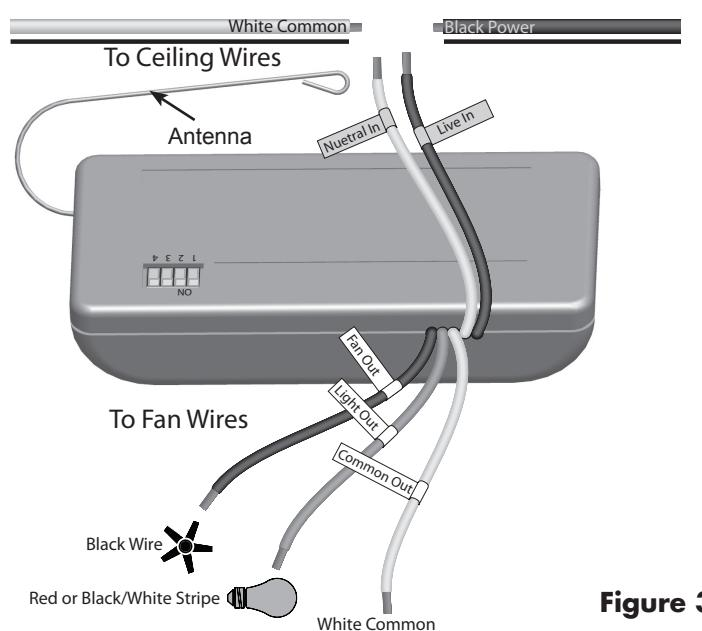
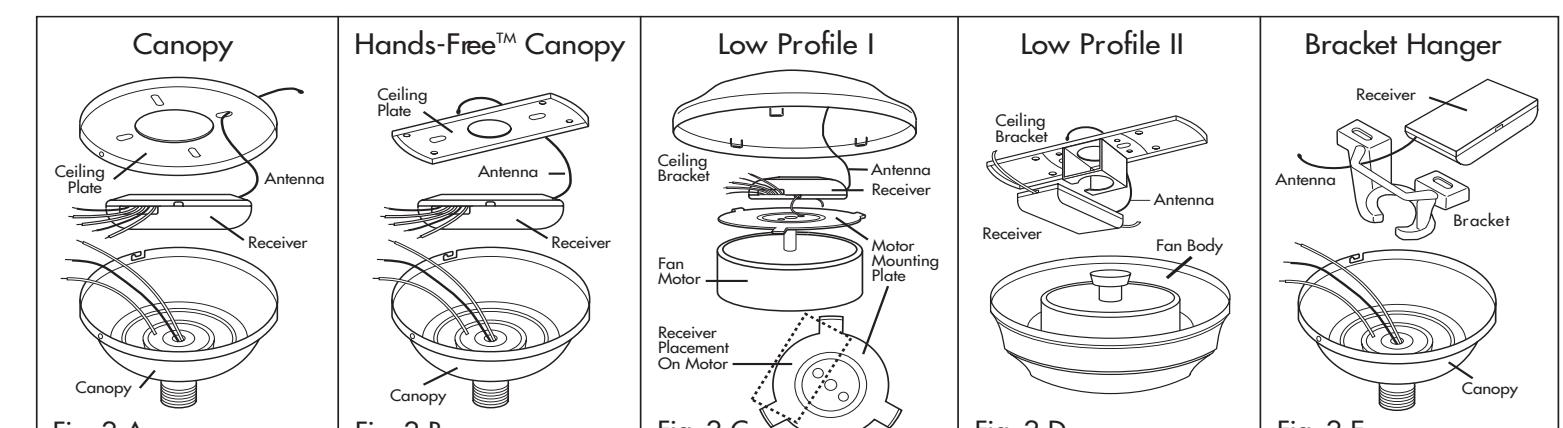

Figure 3.
Figure 2
**Canopy Hanger (Fig. 2-A):** Place receiver in canopy. Connect wiring as shown in Figure 3. Extend antenna through one of the ceiling plate openings (approximately 3-6").
**Hunter Hands-Free™ Canopy (Fig. 2-B):** Connect wiring as shown in Figure 3. Place receiver inside mounting bracket. (On some Whisper Wind™ models, the receiver must rest across the bottom of the mounting bracket.) Extend antenna above the ceiling mounting bracket (approximately 3-6").
**Low Profile Style I (Fig. 2-C):** Attach the receiver to the motor mounting plate with 12" cable ties (not included). Cut off any extra cable tie. Connect wiring as shown in Figure 3. Extend antenna above the ceiling plate openings (approximately 3-6").
**Low Profile Style II (Fig. 2-D):** Attach the receiver to the ceiling bracket with 12" cable ties (not included). Trim off the excess cable tie length. Connect wiring as shown in Figure 3. Extend antenna above the ceiling mounting bracket (approximately 3-6").
**Bracket Hanger (Fig. 2-E):** Starting with the antenna wire, slide receiver inside mounting bracket. If a ground wire mounting screw prevents the receiver from sliding into the bracket, move ground wire and screw to
an unused hole at the top of the bracket or secure with a canopy mounting screw. The bracket must remain properly grounded. Connect wiring as shown in Figure 3. Extend antenna above the receiver (approximately 3 - 6").
**Cable Tie Routing for Low Profile Fans (Figs. 2-C, 2-D):** Insert cable tie through openings as shown. DO NOT insert the cable tie through the inside of the receiver. The cable tie can be placed across the length or width of the receiver to best match your fan installation type.
3. Determine your ceiling fan mounting type (Figure 2). Most installations will be one of these five types: Canopy Hanger, Hunter Hands-Free™ Canopy, Low Profile Styles I or II, or Bracket Hanger.
4. Install the ceiling fan according to its instructions, up to the point of making the electrical connections. Connect receiver to ceiling fan according to the mounting type as instructed in Figure 2.
5. If the fan is already installed, reverse the installation procedure to the point of disconnecting the fan wiring. Connect receiver to ceiling fan according to the mounting type as instructed in Figure 2.
6. Use the 2 large wire nuts supplied to connect the receiver and house wiring, then use the 3 small wire connectors supplied to connect the receiver and ceiling fan wiring. Refer to the Wiring Diagram in Figure 3.
7. Be sure the antenna is positioned securely, so it does not interfere with the ceiling fan motor. Refer to Figure 2. Do not modify or damage the antenna wire, as control performance may be reduced. After securing the receiver, antenna, and wiring, finish hanging the ceiling fan according to its instructions.
**Suspensión De Campana (Fig. 2-A):** Coloque el receptor en la campana. Conecte los alambres como se muestra en la Figura 3. Extienda la antena a través de una de las aberturas de la placa de techo (aproximadamente entre 3" y 6").
**Campana Hunter Hands-Free™ (Fig. 2-B):** Conecte los alambres como se muestra en la Figura 3. Coloque el receptor dentro de un soporte de montaje. Extienda la antena por encima del soporte de montaje de techo (aproximadamente entre 3" y 6").
**Perfil Bajo Estilo I (Fig. 2-C):** Conecte el receptor a la placa de montaje del motor con bridas de 12" (no incluidos). Corte toda brida excedente. Conecte los alambres como se muestra en la Figura 3. Extienda la antena a través de una de las aberturas de la placa de techo (aproximadamente entre 3" y 6").
**Perfil Bajo Estilo II (Fig. 2-D):** Conecte el receptor al soporte de techo con bridas de 12" (no incluidos). Recorte el exceso de longitud de bridas. Conecte los alambres como se muestra en la Figura 3. Extienda la antena por encima del soporte de montaje de techo (aproximadamente entre 3" y 6").
**Suspensión De Soporte (Fig. 2-E):** Comenzando con el alambre de la antena, deslice el receptor dentro del soporte de montaje. Si el tornillo de montaje de un alambre de tierra evita que el receptor se deslice en el soporte, mueva el alambre de tierra y atorníllelo en un agujero no utilizado en la parte superior del soporte o asegúrelo con un tornillo de montaje de campana. El soporte debe permanecer puesto a tierra adecuadamente. Conecte los alambres como se muestra en la Figura 3. Extienda la antena encima del receptor (aproximadamente entre 5" y 8").
**Colocación De Sujetacables Para Ventiladores De Perfil Bajo (Fig. 2-C, 2-D):** Introduzca el sujetacables a través de las aberturas, tal como se